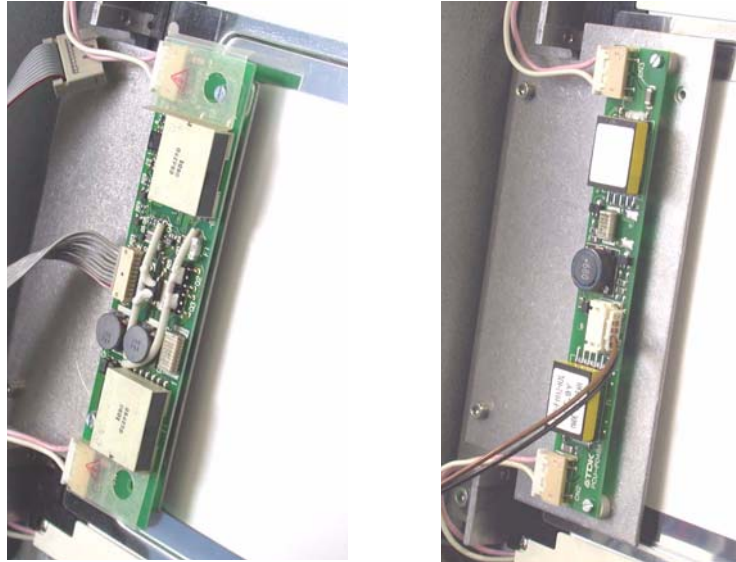

Figure 11-68. The two versions of the dc/ac board, PN 155317 (left) and PN 155415 (right)
2. Locate the AC/DC converter board. (Figure 11-68.)